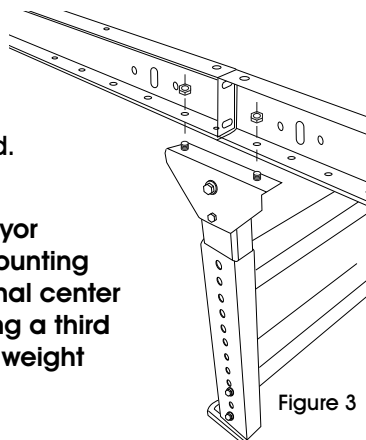

Figure 3
**Bolting a single H-Stand to two conveyor frames:** Position the H-Stand halfway between the end of two conveyor frames, lining up one hole on each conveyor with the H-Stand. Fasten bolts through conveyors and H-Stand. (See Figure 3)